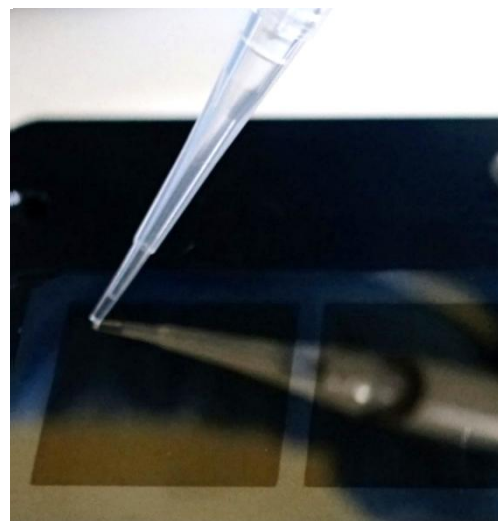

Fig. 5 Manual Arraying
3. Dispense 0.1  $\mu$ L of the reaction solution onto any desired location on the derivatized substrate (Fig. 5).